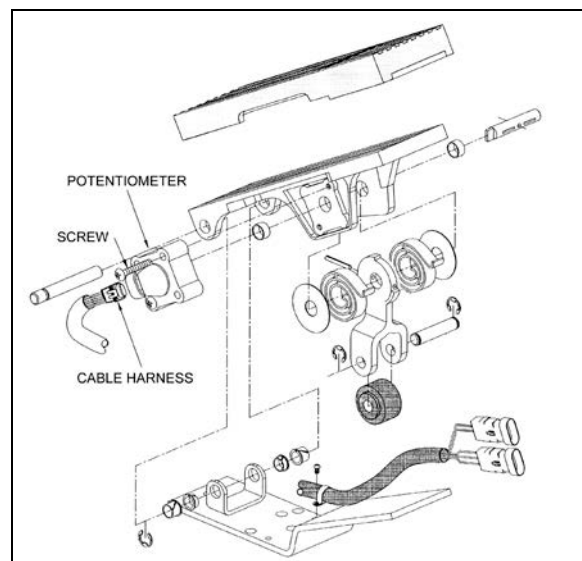

FIGURE 34: ELECTRONIC FOOT PEDAL ASSEMBLY 03035
3. Discard potentiometer (Figure 34).
4. Position new potentiometer. Press potentiometer onto the potentiometer shaft, matching cutouts in shaft to drive tangs of potentiometer. Apply hand pressure until potentiometer has bottomed out in housing. Reinstall screws (Figure 34) and tighten just enough to secure potentiometer lightly.